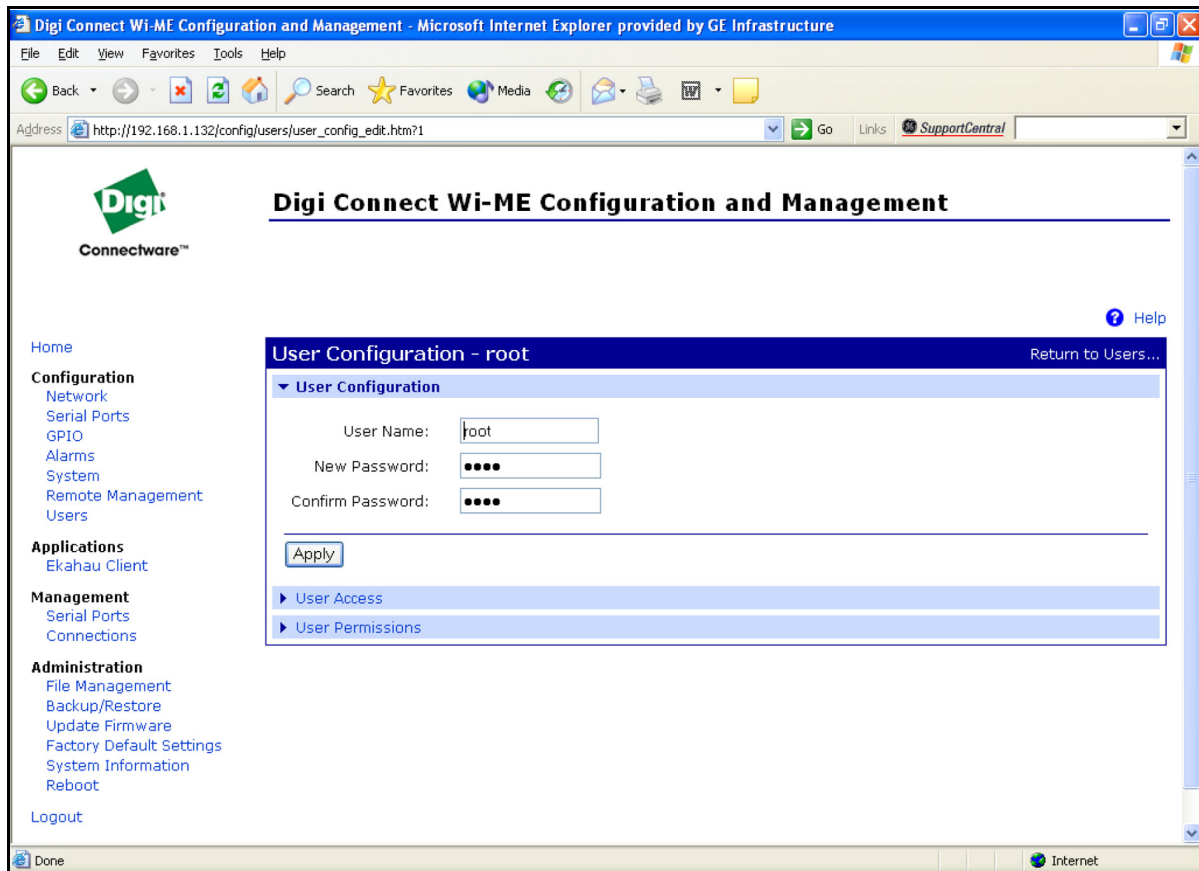

Figure 35: Changing the User Name and/or Password
5. Click on **New....** Figure 35 on page 54 appears.